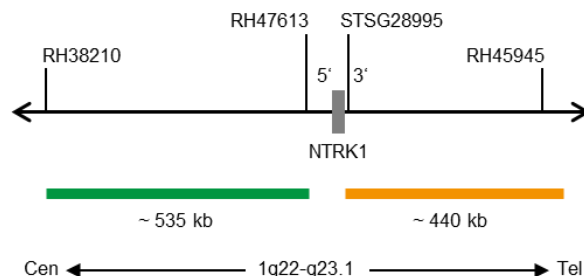

Fig. 1: SPEC NTRK1 probe map (not to scale)
- ZyGreen (excitation 503 nm/emission 528 nm) labeled polynucleotides (~10 ng/μl), which target sequences mapping in 1q22-q23.1* (chr1:156,245,849-156,781,745) proximal to the NTRK1 breakpoint region (see Fig. 1).
- ZyOrange (excitation 547 nm/emission 572 nm) labeled polynucleotides (~4.5 ng/μl), which target sequences mapping in 1q23.1* (chr1:156,854,527-157,296,918) distal to the NTRK1 breakpoint region (see Fig. 1).